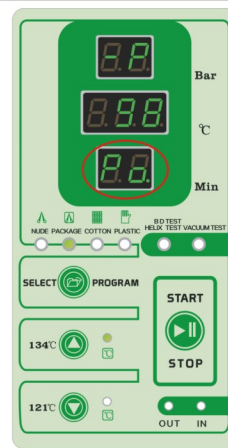

Fig.7.4-5
(5)***Second times Pre-vacuum stage:***when the pressure down to 0.0bar,the control system will open the vacuum pump solenoid valve(Ev4).the time display window show “Po” , the “pressure display window” show “-P” ,the “temperature display window” show “temperature in chamber” . (Fig.7.4-5)
(8)***third times Pre-vacuum stage:***when the pressure down to 0.0bar,the control system will open the vacuum pump solenoid valve(Ev4).the time display window show “Po” , the “pressure display window” show “-P” ,the “temperature display window” show “temperature in chamber” . (Fig.7.4-5)